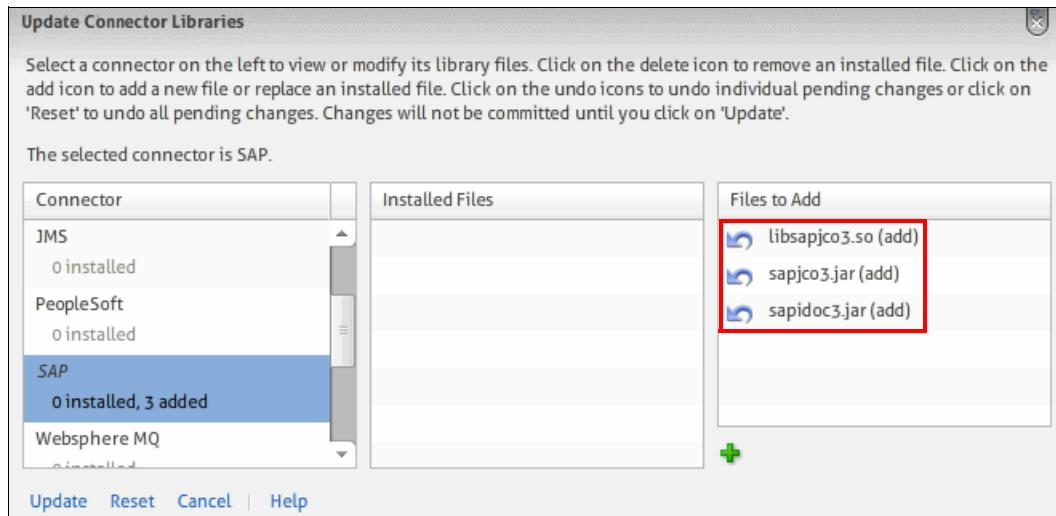

Figure 2-29 WMC install SAP libraries
- Add the two SAP JCo version 3.x.Java libraries, sapjco3.jar and sapidoc3.jar, and the native SAP library, libsapjco3.so. The panel now looks as shown in Figure 2-29.